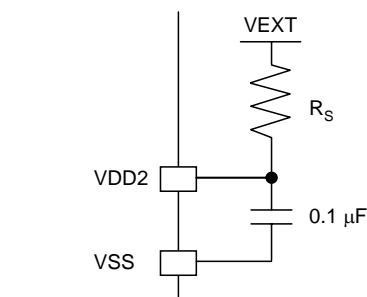

Fig. 1
- When the external supply voltage $V_{EXT} = 4.5\text{ V}$ to 5.5 V , connect a 5.1-k Ω resistor R_S between V_{EXT} and VDD2 as shown in Fig. 1.